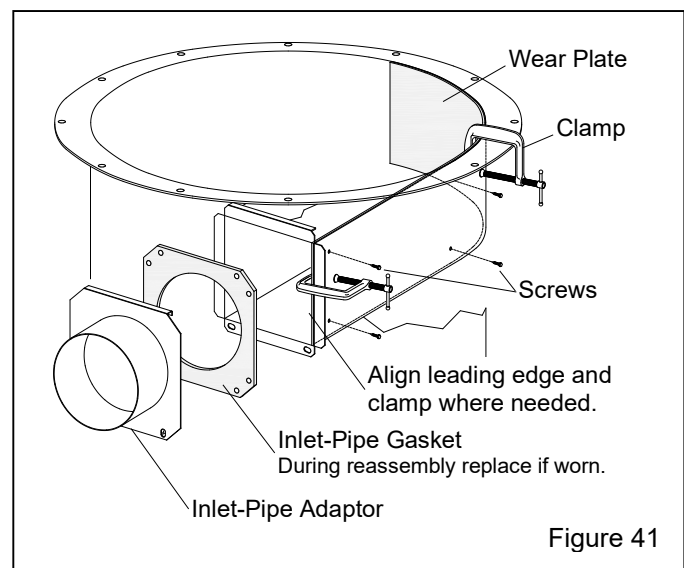

Figure 41
7.11.2 600 cfm reclaimer with bolt-on removable top Figure 41